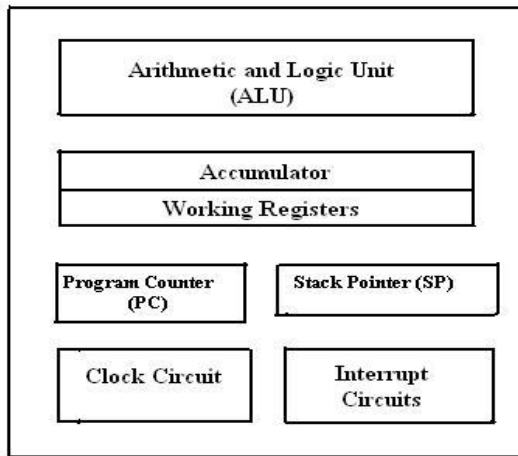

Fig.4.1 Block diagram of a Microprocessor
- ❖ The microprocessor contains arithmetic and logic unit (ALU), Instruction decoder and control unit, Instruction register, Program counter (PC), clock circuit (internal or external), reset circuit (internal or external) and registers.
- ❖ The block diagram of the Microprocessor is shown in Fig.4.1